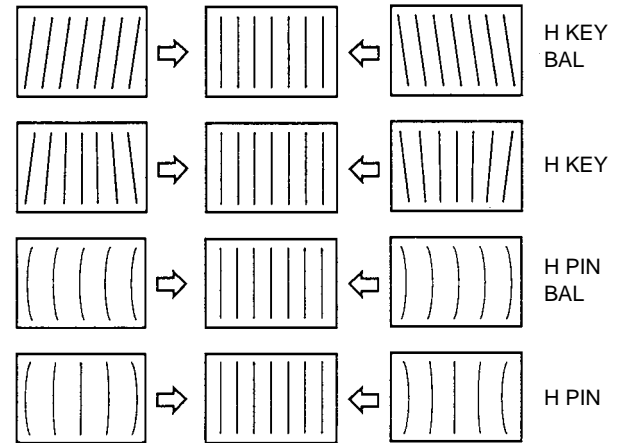

Fig. 1-10
10. Adjust the horizontal trapezoidal distortion and horizontal PIN distortion on both sides of picture using the H KEY BAL, H KEY, H PIN BAL and H PIN data respectively as shown in Fig. 1-10.